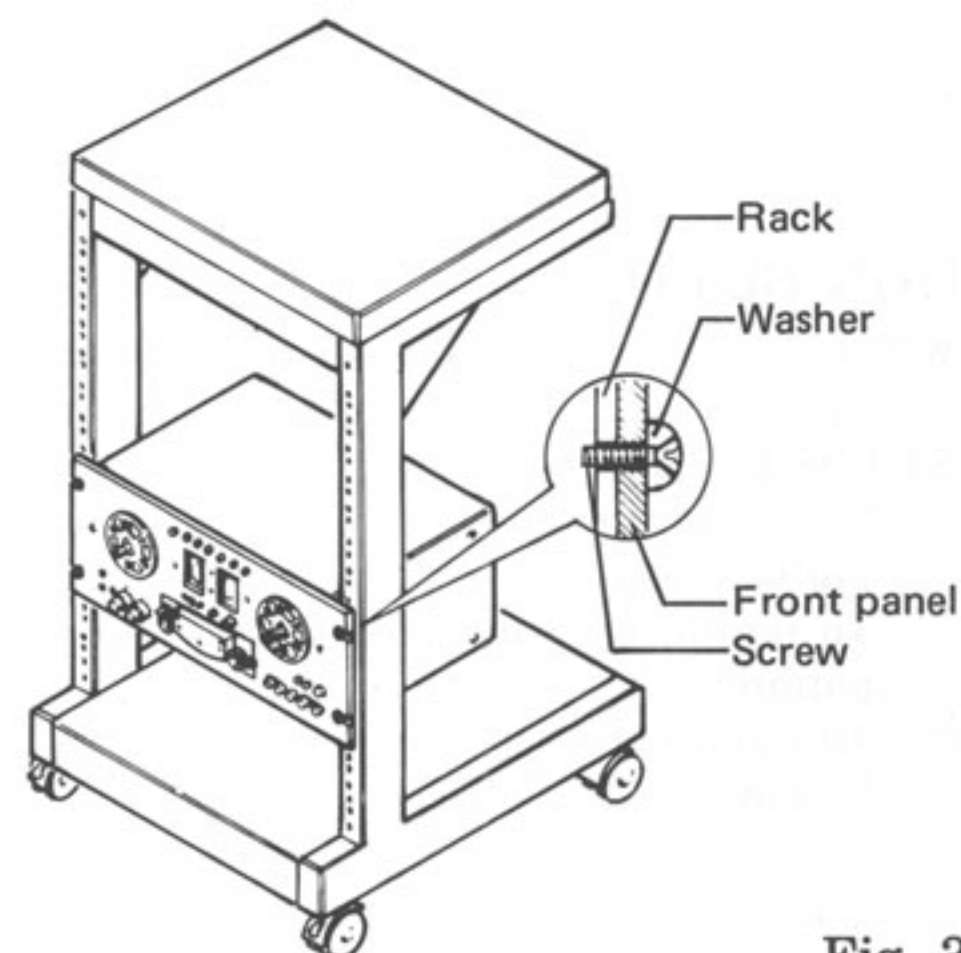

Fig. 3
3. Use the accessory screws to screw the front panel into the rack (see Fig. 3).